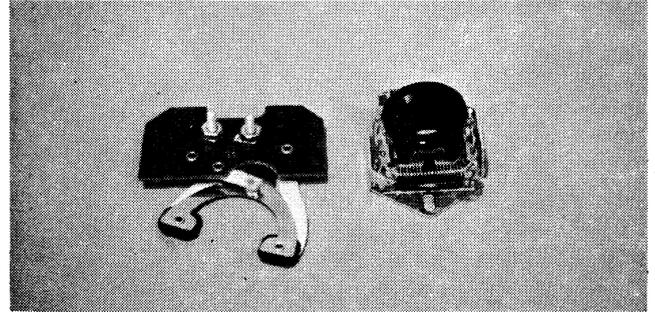
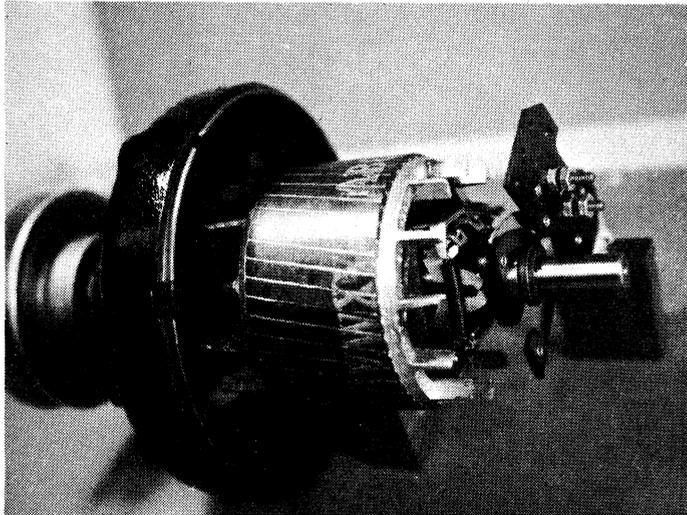
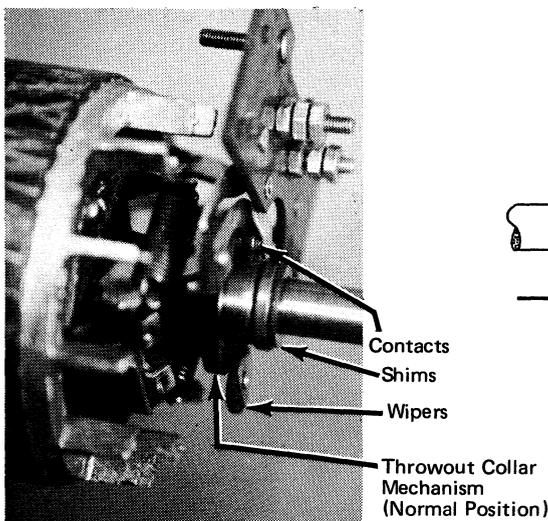

Figure 1-7. Typical Motor Start Switch and Centrifugal Mechanism
Figure 1-8. Actual Position of Switch and Mechanism
Figure 1-12. Start Switch in Normal Position
The starting switch consists of a set of contact points and a throwout mechanism which operates by centrifugal force to open the points when the rotor approaches its rated speed. Figure 1-7 is a photo of a start switch and centrifugal mechanism that have been removed from a motor. Figure 1-8 shows the switch and mechanism as they appear in the motor. Figures 1-12 and 1-13 show the start switch operation in greater detail.
5. Many switches have felt or plastic wipers which operate against the centrifugal collar (Figure 1-12). If these wipers are badly worn it is sometimes possible to rotate them a half turn to secure a new surface. This should be done only if a replacement switch is not readily available. A switch which has been repaired in this manner should be replaced as soon as practical.
this test). Check to be sure that the fingers of the switch close the contact when in the normal position (Figure 1-12) and allow the contact to open when the throwout mechanism is moved to its running position (Figure 1-13).